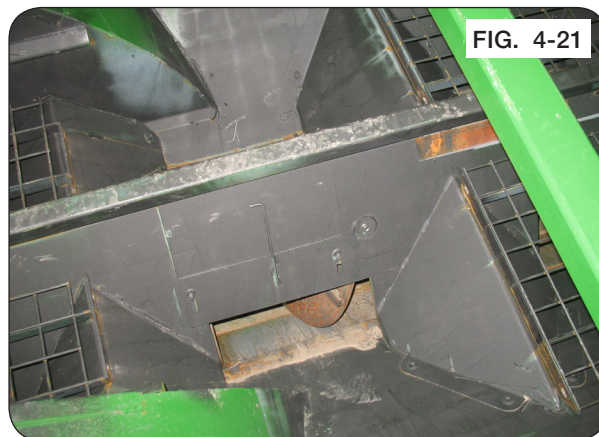

FIG. 4-21
2. Remove the bolts in both middle grates inside the cart. Remove the grates. (Figure 4-21)